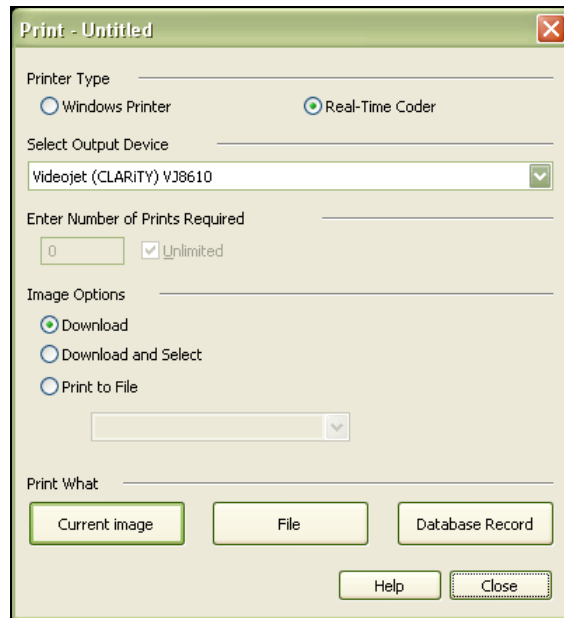

Figure 5-22: Select Output Device
- 2 Click the Printer icon from the tool bar in CLARiSOFT. The *Print* window appears (see Figure 5-22 on page 5-22).